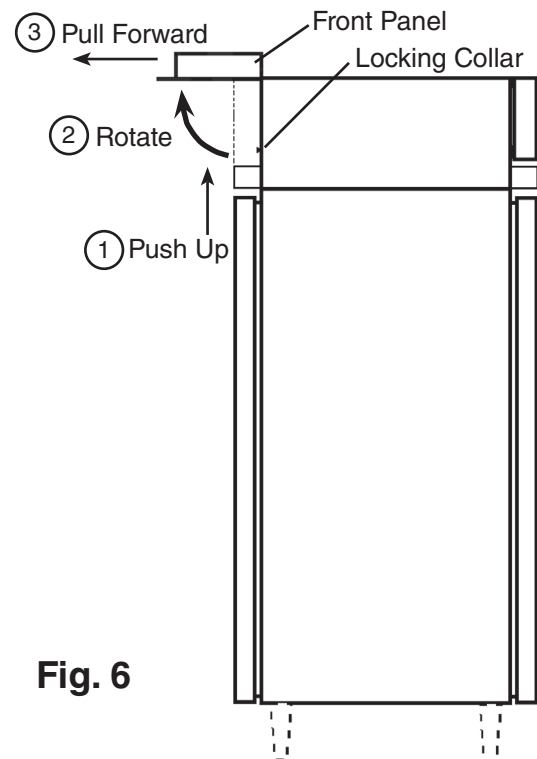

Fig. 6
- 1) Push the front panel up approximately 1/2 inch (1.3 cm) until it is disengaged from the locking collars and stops. See Fig. 6.